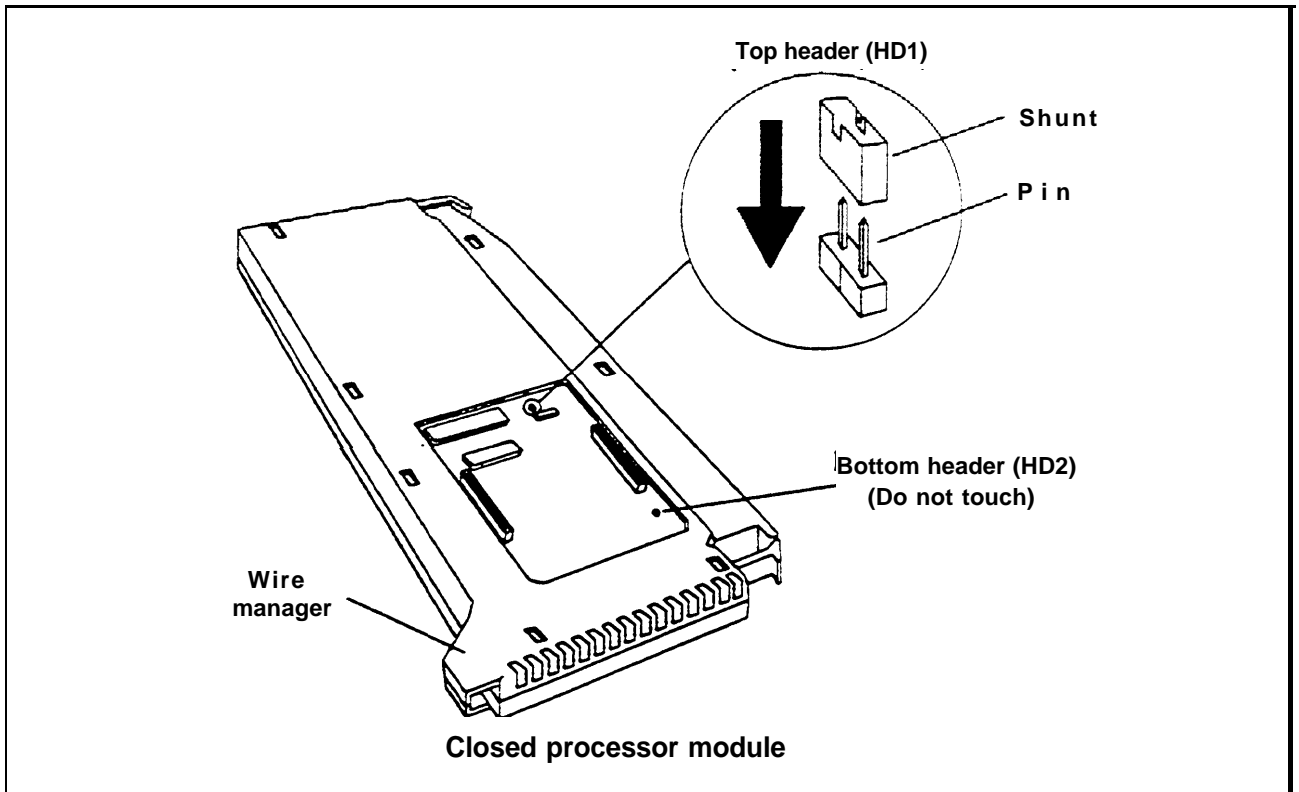

FIGURE 2-22 Modifying the 517B7 Processor Module for square (key) operation.
- 1 Before you insert the Feature Module, orient the Processor Module case as shown in Figure 2-22. Do *not* open the Processor Module case.